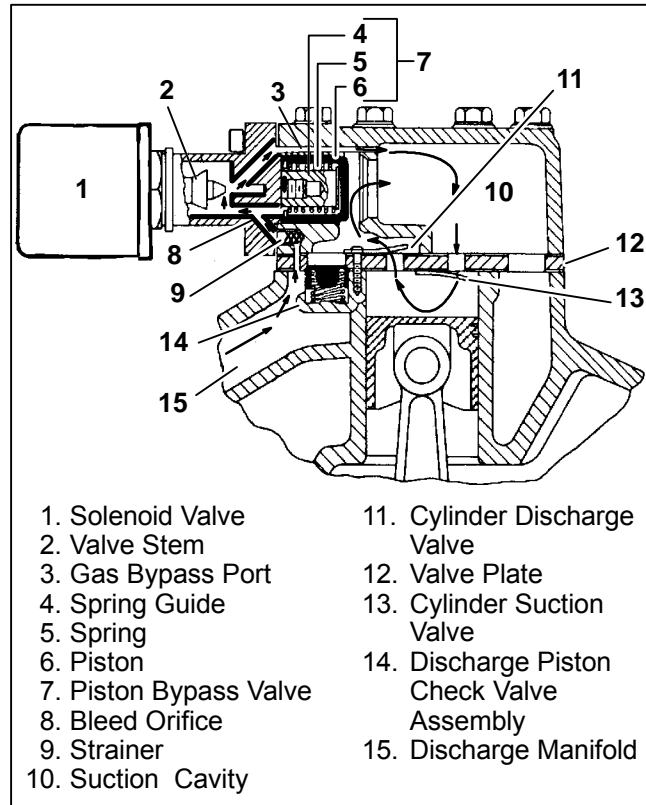
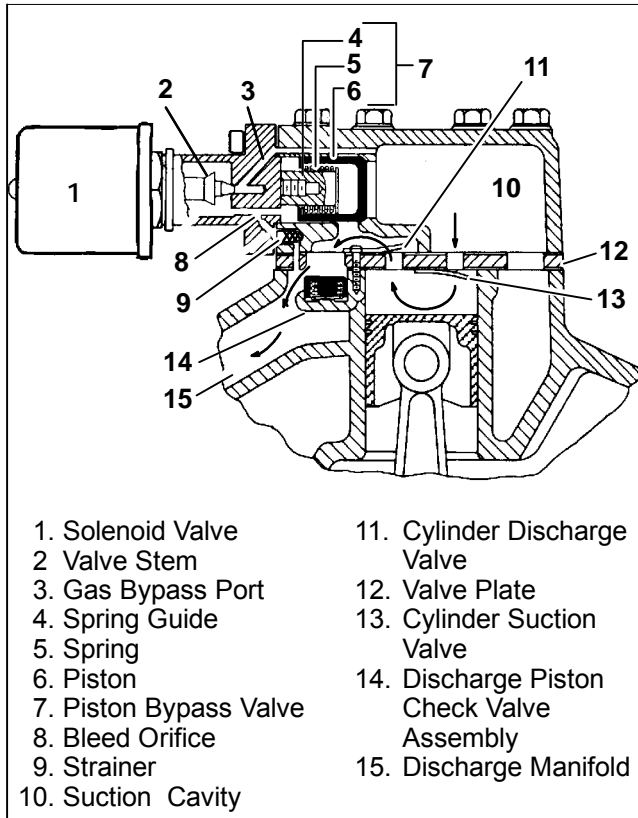

Figure 1-6. Electric-Operated Unloader- Unloaded Operation
Figure 1-7. Electric-Operated Unloader-Loaded Operation
The capacity controlled cylinder is easily identified by an electric solenoid which extends from the side of the cylinder head. When the solenoid energizes, the cylinder unloads allowing discharge gas to circulate as shown in Figure 1-6. The unloaded cylinder operates with little or no pressure differential, consuming very little power. A de-energized solenoid reloads the cylinder as shown in Figure 1-7.
Pressure from the discharge manifold (Figure 1-6, item 15) passes through the strainer (9) and bleed orifice (8) to the back of the piston bypass valve (7). Unless bled away, this pressure would tend to close the piston (6) against the piston spring (5) pressure.
Discharge pressure bleeds from the discharge manifold (Figure 1-7, item 15) through the strainer (9) and bleed orifice (8) to the solenoid valve stem (2) chamber and the back of the piston bypass valve (7).